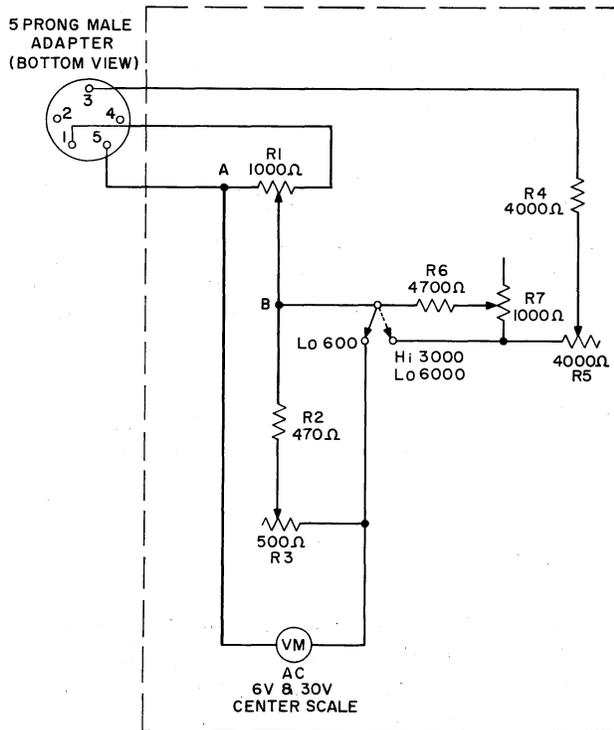

Fig. 2 — Micromhos Meter Calibrator, Schematic
2.06 Fig. 2 is a schematic circuit of the calibrator. Two of the leads from the plug are bridged across the 1000-ohm potentiometer
**4.02** To check the ac voltmeter in both the 30-volt (HI 3000) and 6-volt (LO 600) switch positions, proceed as follows: Remove the four panel-mounting screws and attach leads from the VTVM at points A and B as shown in Fig. 2.